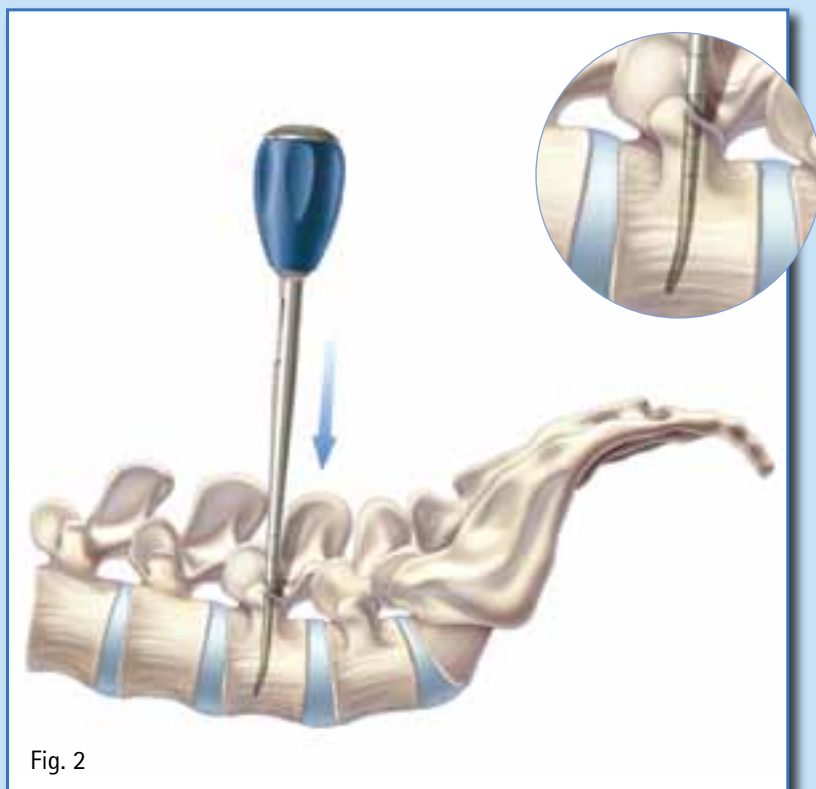

Fig. 2
- Use the pedicle probe to open the pedicle canal. (Fig. 2)